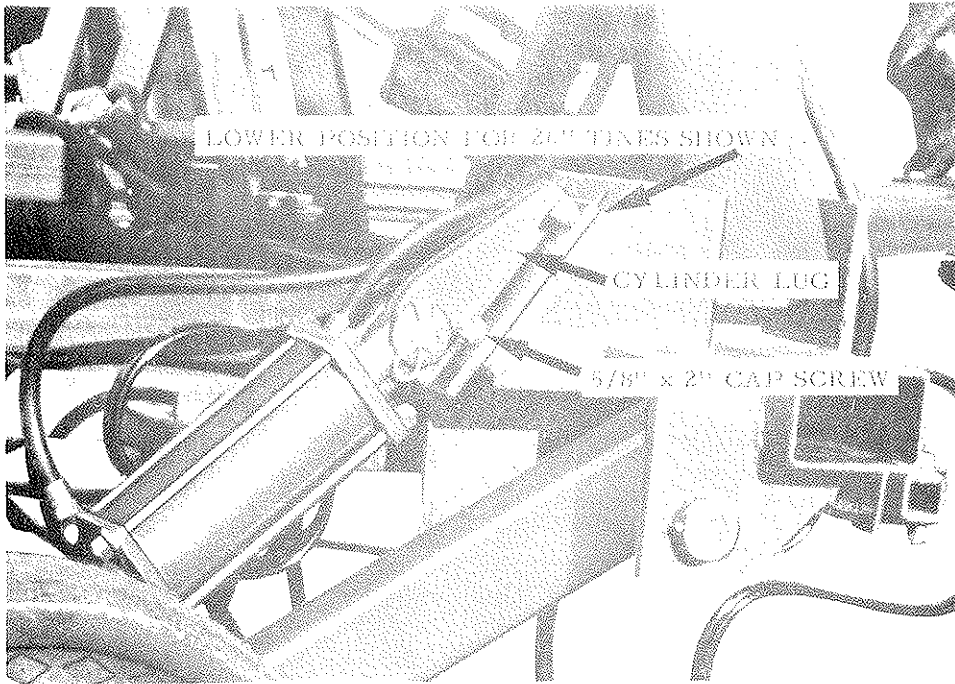

FIGURE 10
3. Install cylinder lugs and depth control cylinders on center frame. Lugs go in upper position for standard tines (22" x 10 mm x 32 mm) and lower position for heavy tines (26" x 12 mm x 32 mm). Use 5/8" x 2" cap screws, nuts and lockwashers. See Figure 10